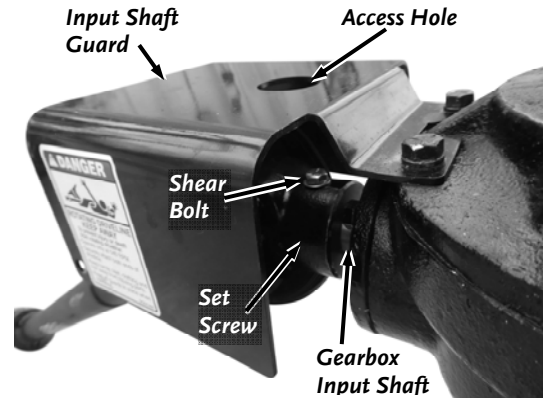

Figure 11
9. Position the PTO Shaft onto the Input Shaft of the Gearbox (**Figure 11**). Align the Bolt Holes and install the 5/16"-18 X 3" Shear Bolt and Locknut. Tighten the Hardware using a 1/2" Socket with extension through the Access Hole on the Input Shaft Guard and a 1/2" Wrench.